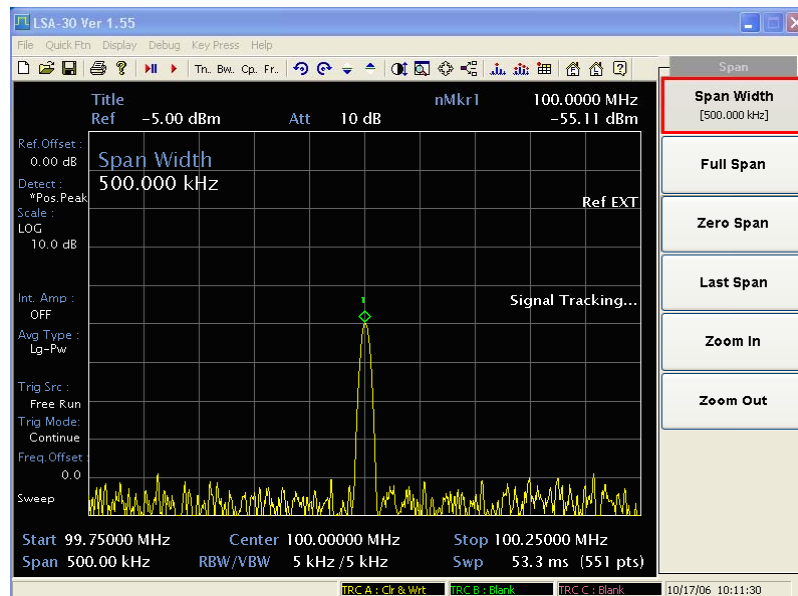

Fig. B-9 After zoom-in on the signal
- 5 Press [SPAN] 500 kHz. The span decreases in steps as automatic zoom is completed (Fig. B-9). You can also use the scroll knob or step keys to decrease the span or use the [Zoom] function under [SPAN]. Press [Peak], [Signal Track OFF] (so that OFF is highlighted) to turn off the signal tracking function.